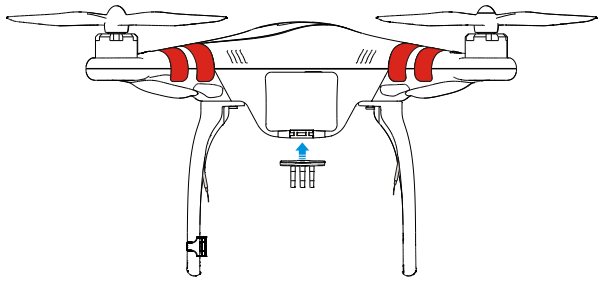

Fig.2
2. (Fig.2) Attach connector to aircraft.